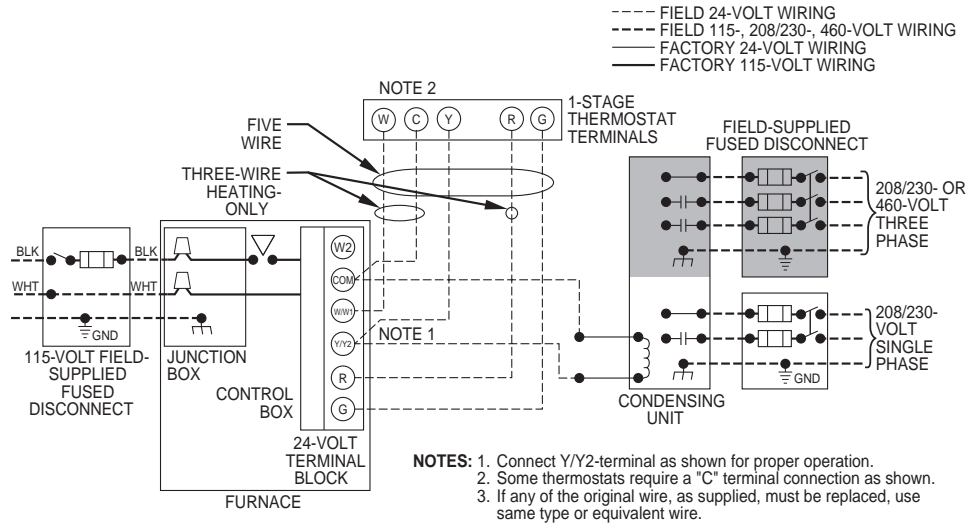
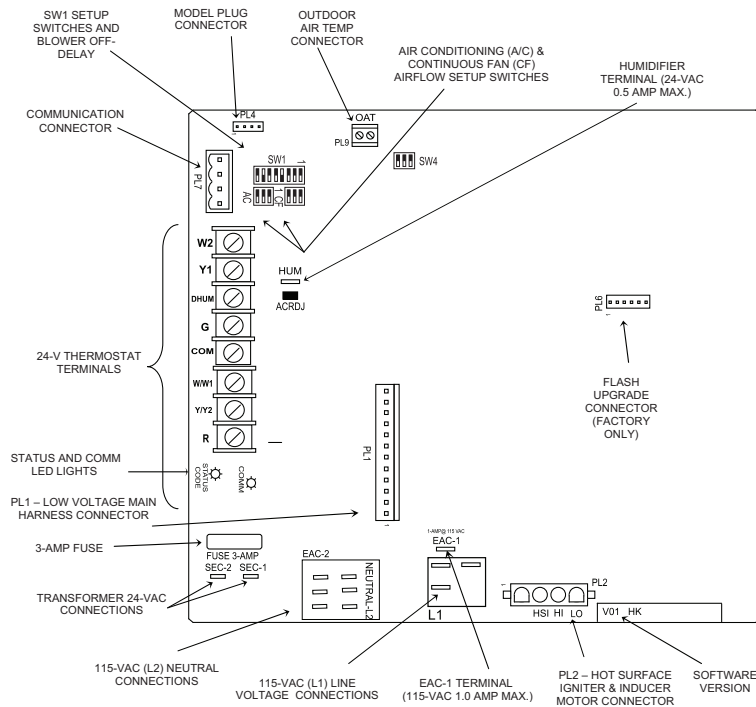

Fig. 24 – Field Wiring Diagram
Fig. 32 – Variable Speed Furnace Control for ECM Blower Motor
See Fig. 24 for field wiring diagram showing typical field 115-v wiring. Check all factory and field electrical connections for tightness.
5. Connect line voltage leads, see Fig. 24.
Make field 24-v connections at the 24-v terminal strip, see Fig. 24 - Fig. 32. Connect terminal Y/Y2 as shown in Fig. 28 - Fig. 31 for proper cooling operation. Use only AWG No. 18, color-coded, copper thermostat wire.
Connect an accessory Electronic Air Cleaner (if used) using 1/4-in female quick connect terminals to the two male 1/4-in quick-connect terminals on the control board marked EAC-1 and EAC-2. The terminals are rated for 115VAC, 1.0 amps maximum and are energized during blower motor operation, see Fig. 32.
Connect an accessory 24 VAC, 0.5 amp. maximum humidifier (if used) to the 1/4-in male quick-connect HUM terminal and COM-24V screw terminal on the control board thermostat strip. The HUM terminal is energized when blower is energized in heating, see Fig. 32.